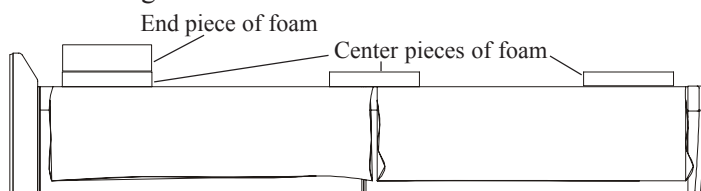
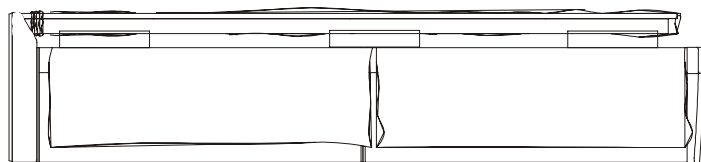

Figure 5
Figure 7
- Place four pieces of foam packing material removed from the Midrange/High Frequency Column Shipping Carton, on top of the cloth covers placed in step 1. Refer to figure 5.
- Remove the end piece of foam, leaving the three center pieces of on top of the Low Frequency Column. Refer to figure 5. Then reposition the bottom of the Midrange/High Frequency Column to fit into the channel opening of the Low Frequency Column base. Refer to figure 7.